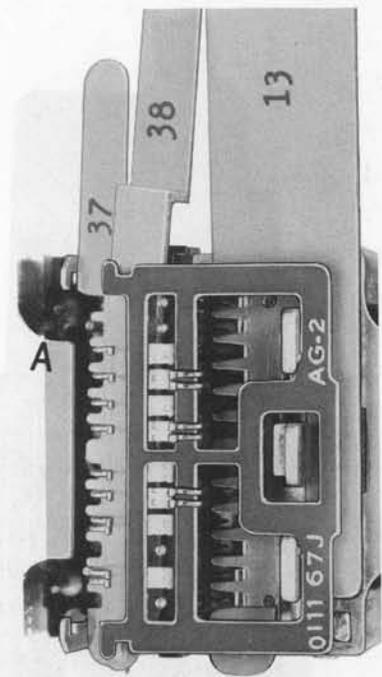

Fig. 10—Detail 13 Comb in Place With Detail 37 Comb and Detail 38 Comb Lifter
4.15 On the top right side of the relay, insert detail 13 comb behind the card with the teeth of the comb facing to the left and the slot straddling the armature as shown in Fig. 10. The stop on the comb shall come to rest on the top edge of the armature leg so that the movable springs align in pairs between teeth of the comb.